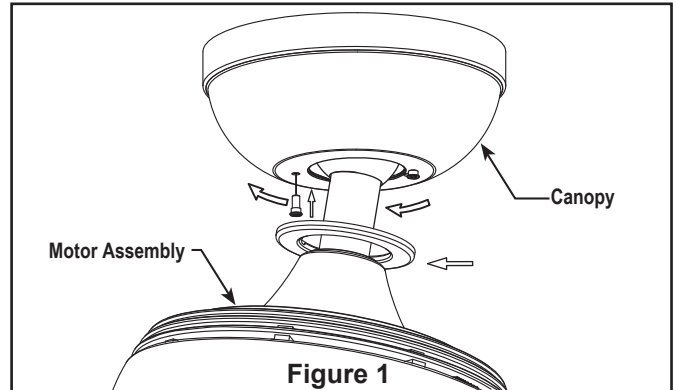

Figure 1
- ☐ 1. Assemble canopy by rotating key slot in canopy over shoulder screw in hanger bracket and care not to pinch the wires. Tilt the motor assembly to the side to have more space to tighten shoulder screws. Fully assemble and tighten second shoulder screw that was previously removed. (Figure 1)